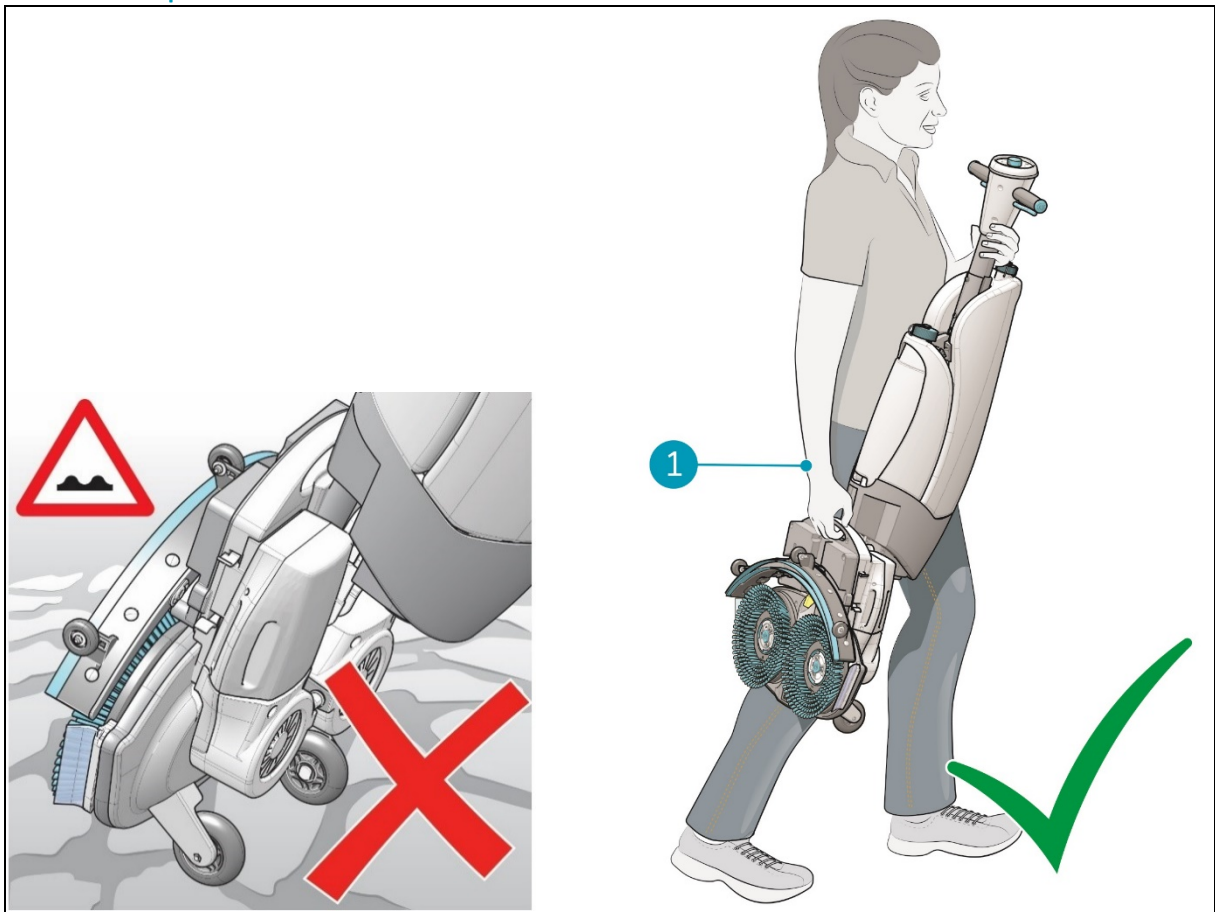

Figure 6
2. Carry the i-mop XXL basic with one hand while holding the handle (Figure 6, pos 1) with your other hand.